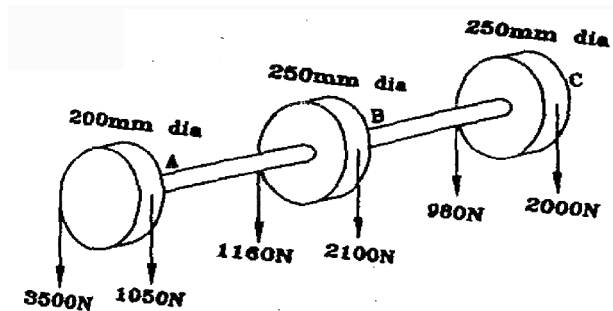

Fig. 7
5. (a) Fig. 7 shows a horizontal shaft with keyed pulleys, rotating at 1800 rpm. The pulleys of the tight and slack sides of the belts over the pulleys are indicated in the figure. Neglecting the weight of the shaft and assuming smooth bearings close